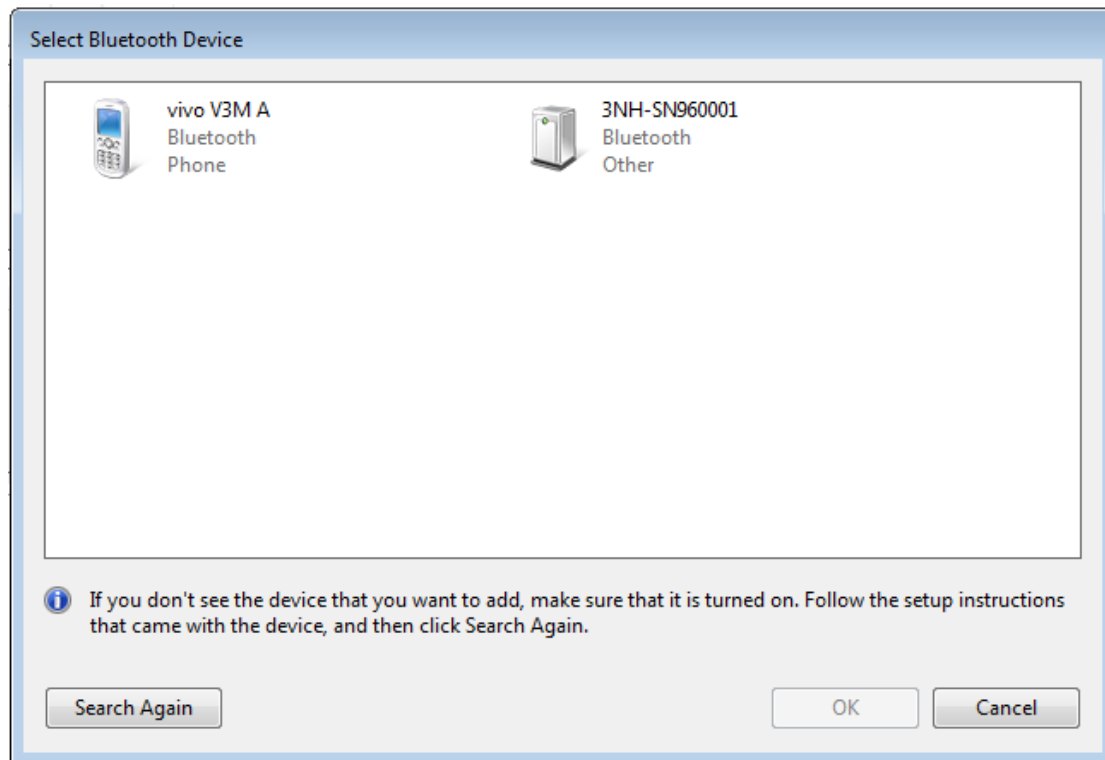

Figure 13 Select Bluetooth Device
4. In the pop-up "Select Bluetooth Device" window (shown in Figure 13), select the Bluetooth device of the instrument, and then click "OK". The Bluetooth device of the instrument is usually in the form of "3NH" plus the serial number of the instrument. If the serial number of the instrument is "960900", then the Bluetooth name will be "3NH-SN960900". Since the system takes time to discover the Bluetooth device, it may take a while.